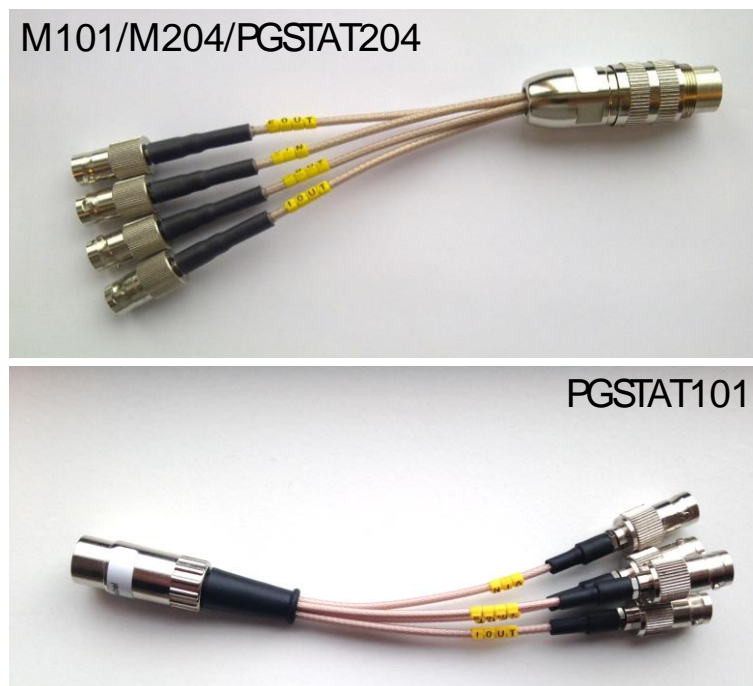

Figure 16 – The Vout provided by the optional monitor cable for the Autolab M101/M204 and Autolab PGSTAT101/204 is used to control the Autolab Motor Controller
- Vout provided by the optional monitor cable for the Autolab PGSTAT101/204 or Autolab M101/M204 (see Figure 16).